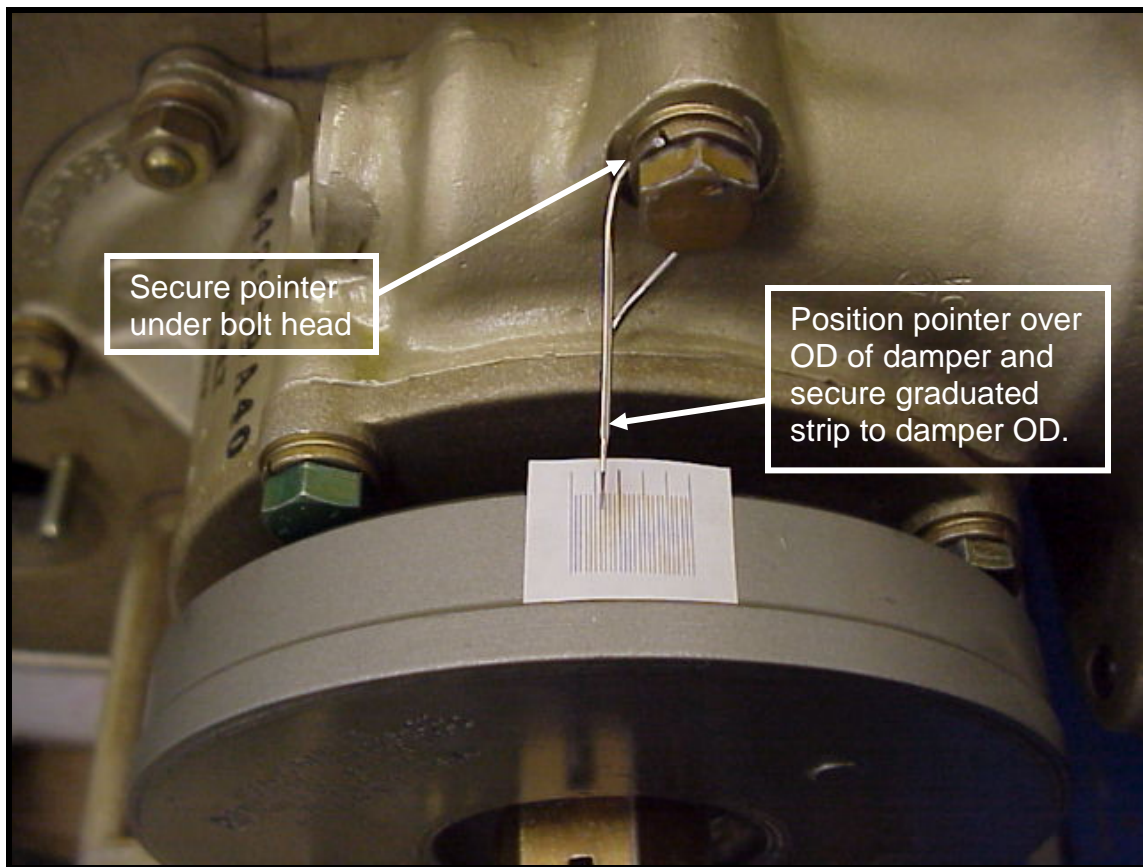

FIGURE 4. DAMPER SHAFT BACKLASH MEASUREMENT
6. Loosen the starter adapter bolt at the 12 o'clock position. Secure the looped end of the wire under the bolt head and position the pointer over the center of the viscous damper OD. Moderately snug the bolt to hold the pointer stationary. See Figure 4 on page 7.
7. Fabricate a measuring strip 1-inch long, graduated in .02 inch increments, from heavy paper stock. Then secure the measuring strip to the previously cleaned OD of the viscous damper using Scotch Tape. See Figure 4 on page 7.